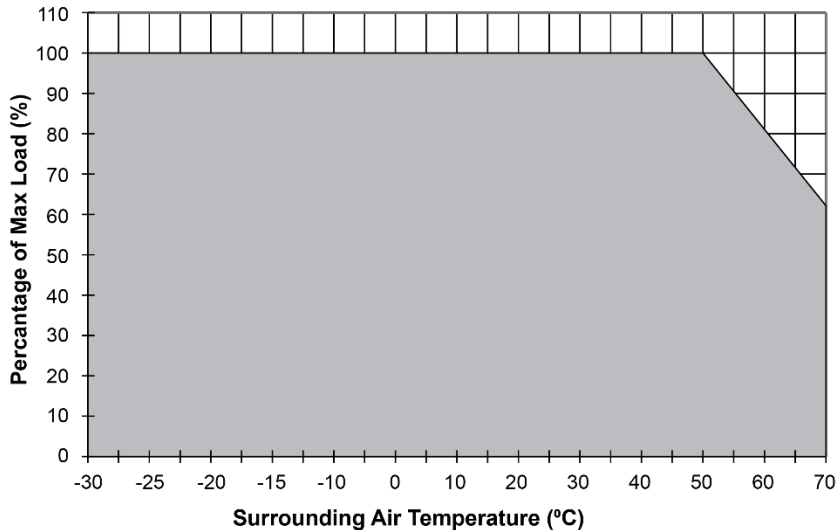
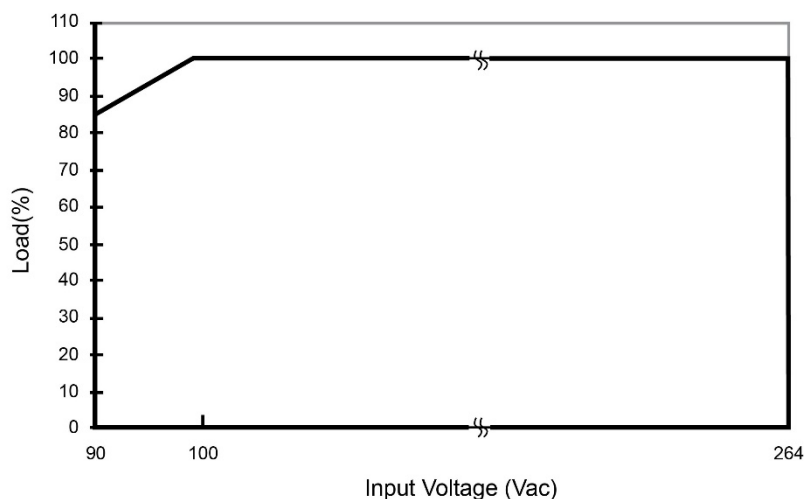

Fig. 1 De-rating for Horizontal Mounting Orientation
Fig. 2 De-rating for AC Input Voltage
1. Power supply components may degrade, or be damaged, when the power supply is continuously used outside the shaded region, refer to the graph shown in Fig. 1& Fig. 2.